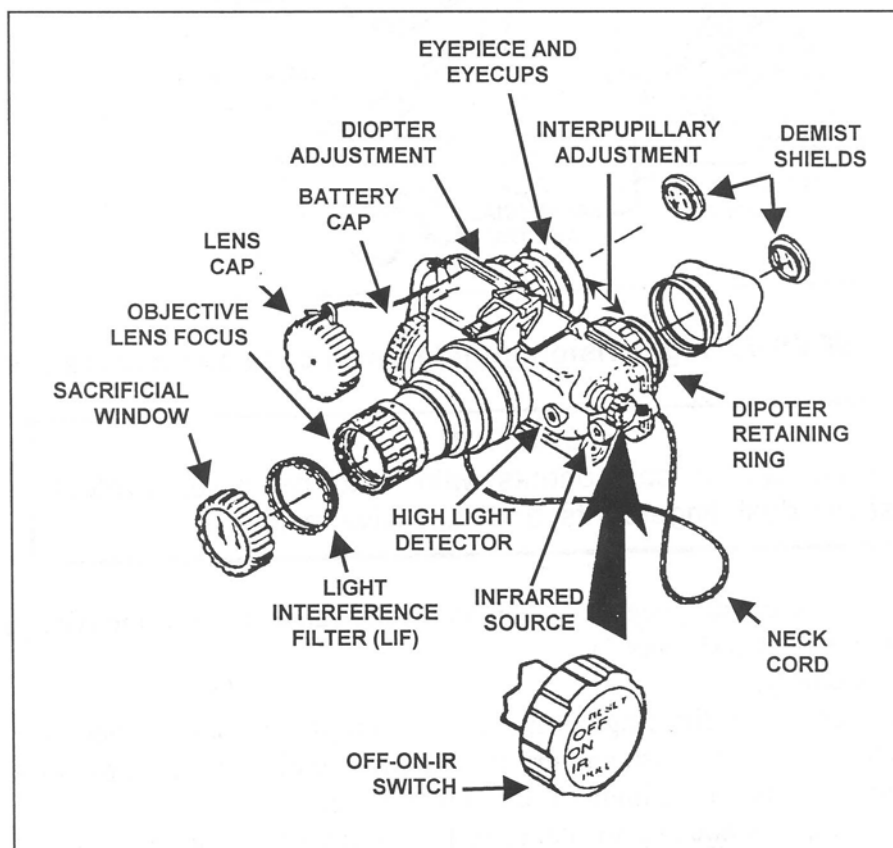

Figure 2. Night vision goggles assembly functional features and accessory items.
- a. Night vision goggles assembly (Figure 2).